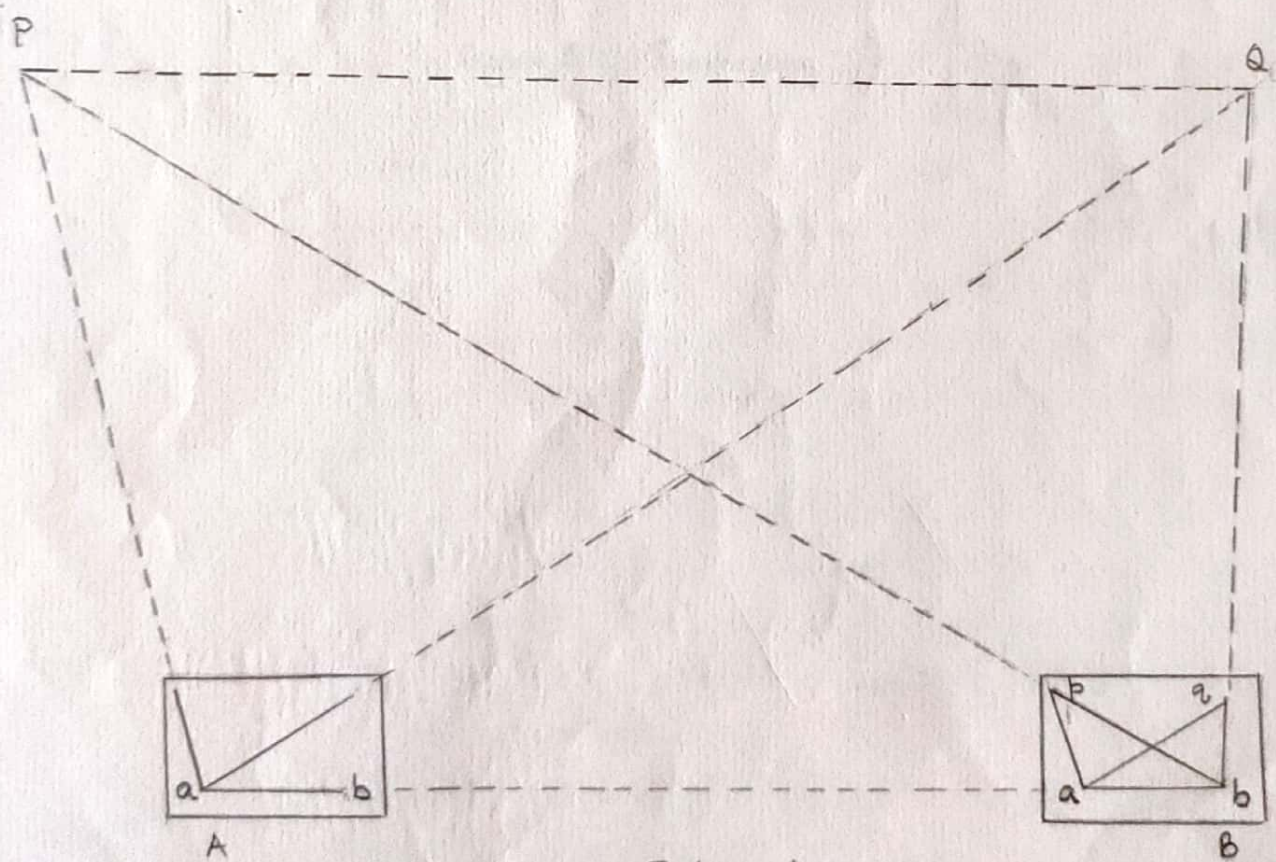

Figure 2 : Intersection.
2. Intersection method: In this method, a point is located on the paper by drawing rays from two plane table stations to that point and determining the point of intersection of the two rays (refer figure 2)